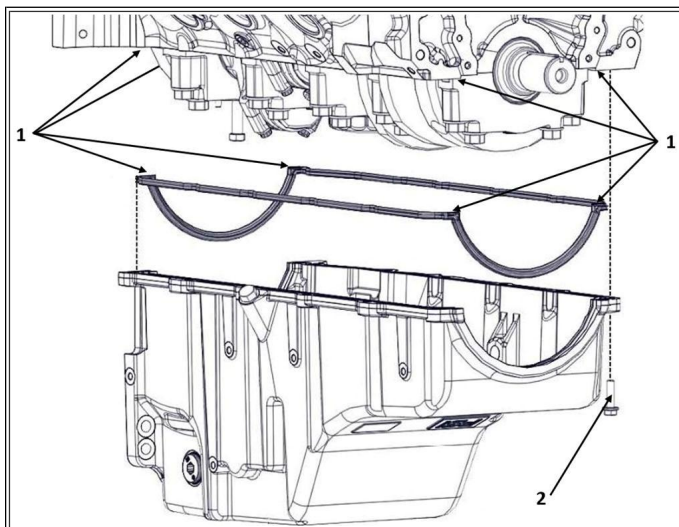

Figure 2: Oil Pan and Gasket Assembly
2. Apply Permatex Grey RTV on the four inner corners (Figure 2, Item 1) near the semi-circular sealing surface on the engine block and front cover.
3. Apply Blue Loctite© onto the threads of the eight M8 bolts (Figure 2, Item 2), four M8 studs, and two M12 bolts.